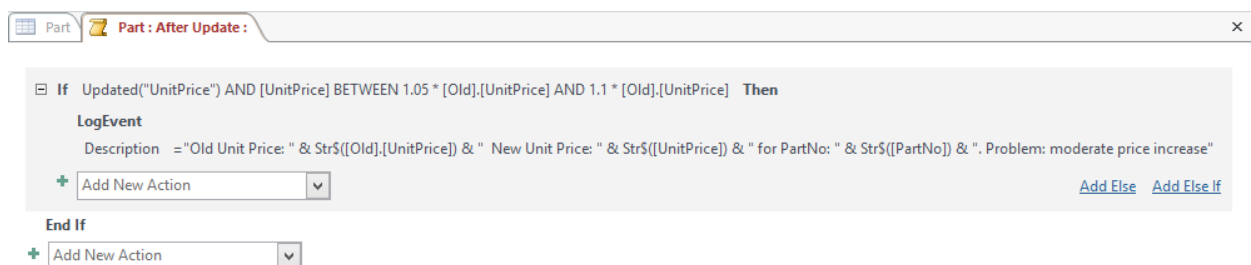

Figure 53: Final *After Update* Data Macro
6. View the Final *After Update* Macro: Compare your macro to Figure 53 to ensure that your macro has been correctly specified. Make sure that the *LogEvent* action is nested inside the *If* action as shown in Figure 53.